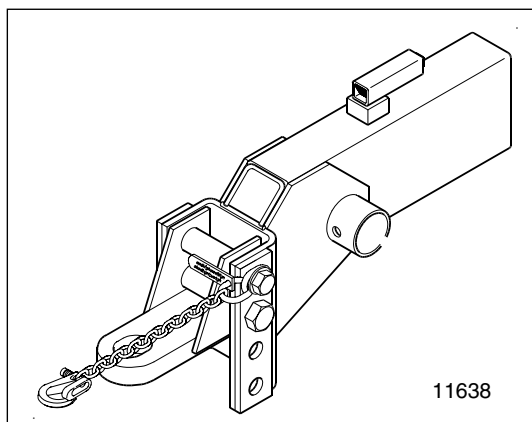
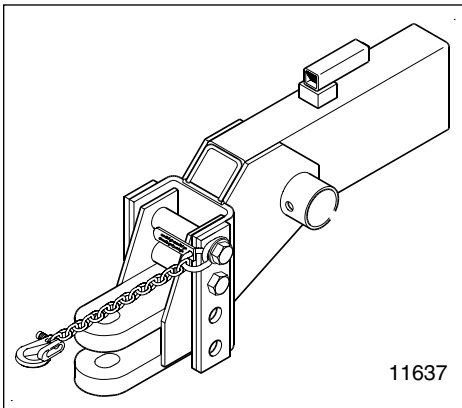
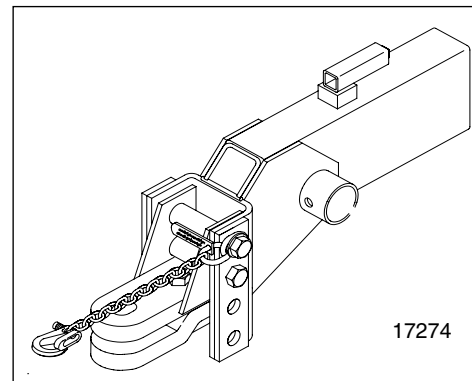

Figure 2
Figure 3
Figure 4
1. The hitch can be used as either a single strap, clevis, or combination hitch as shown in Figure 2 Single Strap Hitch, Figure 3 Clevis Hitch and Figure 4 Combination Hitch.